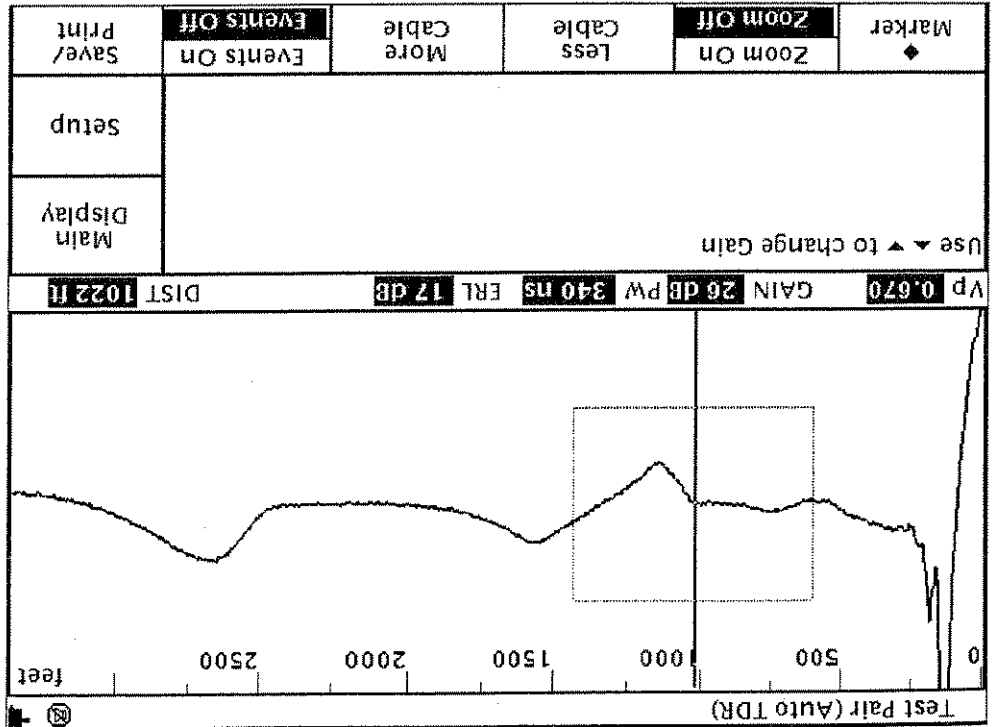

Figure 16-1. Typical TDR waveform.
- Step 1. Acquire the TDR waveform to be saved (see Figure 16-1).